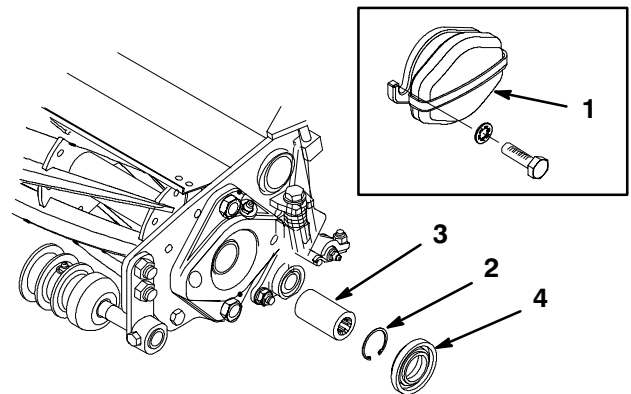

Figure 9
- A. Remove (2) capscrews and lockwashers securing the counter weight to the left end of the cutting unit. Remove the counter weight (Fig. 9, inset).
- B. Remove the plastic spacer at both ends of the cutting unit (Fig. 9).
- D. Apply grease to the inside diameter of the drive coupler. Install the drive coupler to the left end of the cutting unit with a snap ring (Fig. 9).